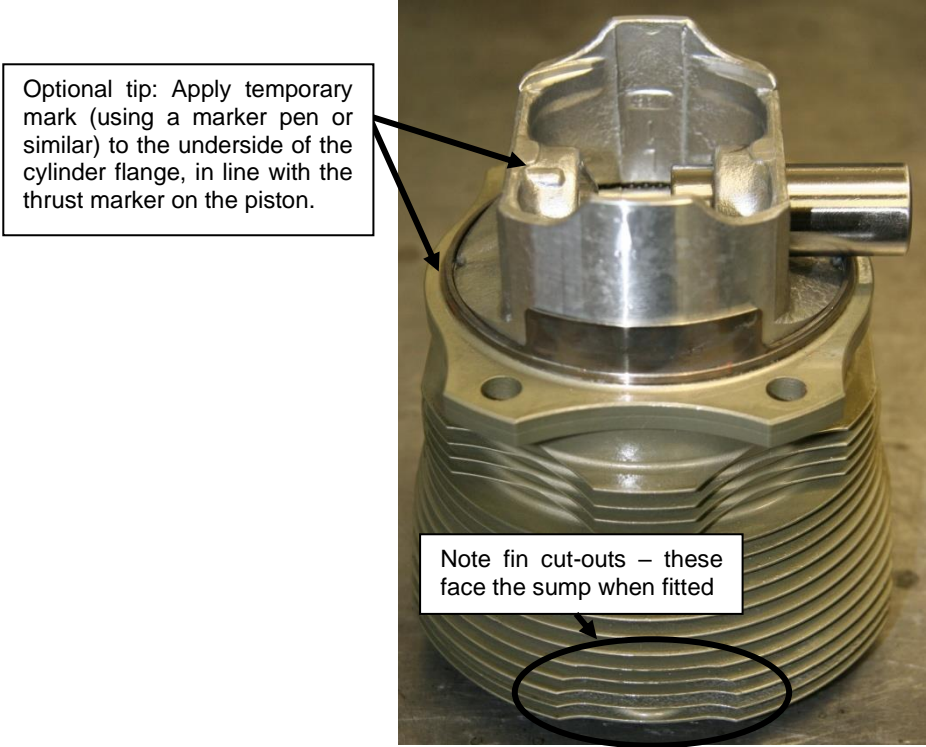

Figure 144 – Piston / Ring / Cylinder Assembly
- Start the gudgeon pin into the piston as shown in Figure 144 (left).